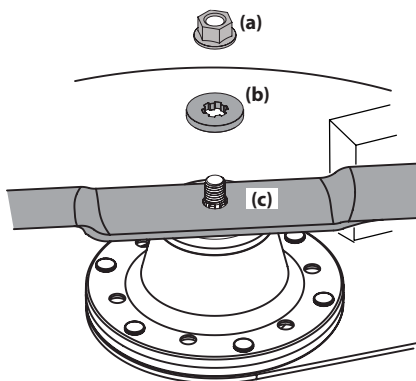

Figure 4-26
2. Remove the flange lock nut (a) and flat washer (b) from the spindle shaft, and remove the blade (c). See Figure 4-26.